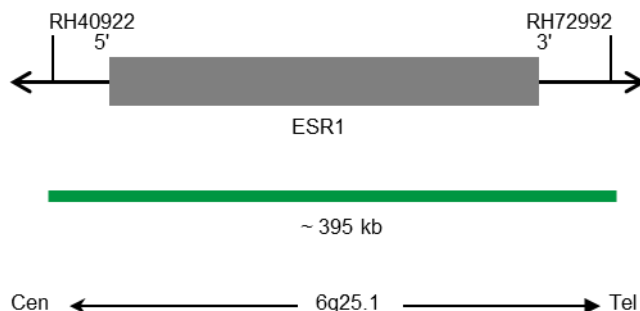

Fig. 1: SPEC ESR1 probe map (not to scale)
- ZyGreen (excitation 503 nm/emission 528 nm) labeled polynucleotides (~10 ng/μl), which target sequences mapping in 6q25.1* (chr6:152,083,365-152,478,947) harboring the ESR1 gene region (see Fig. 1).